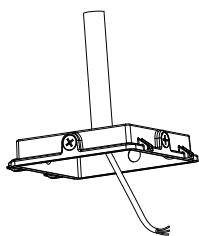

Fig.1-3
3. Feed input leads through a 3/4" threaded conduit pipe (not supplied) and screw the conduit pipe into fixture threading. Apply silicone sealant at all threaded junctions (Fig.1-3)